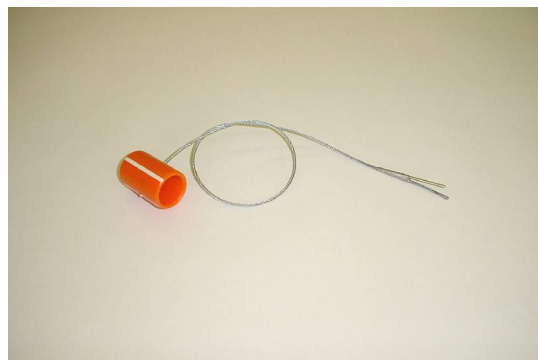

figure 7
6.7 The Ripcord Handle of the Main Canopy U – 067 (fig. 7)